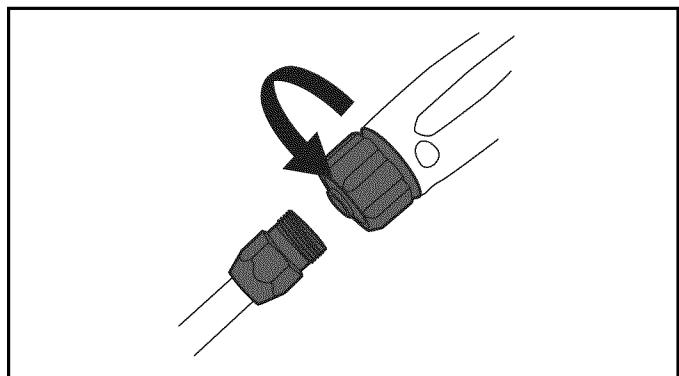

Figure 4-13. Attach Lance
- 4. Connect lance to spray gun (Figure 4-13). Tighten by hand.